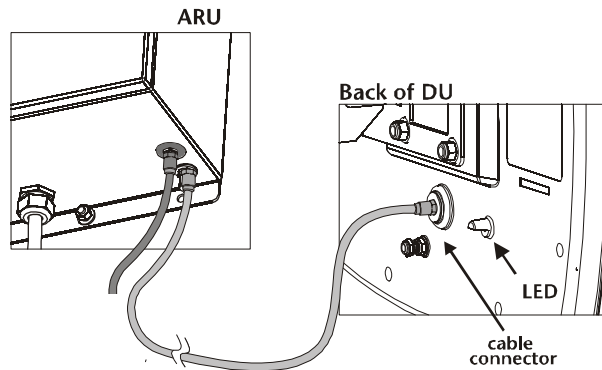

Figure 4.12 ARU to DU Cable (the long cable)
2. Connect the DU end of the coaxial cable to the DU as shown on the left in Figure 4.12. If the cable runs directly down the pole from the DU a drip loop is not required. Connect the ARU end of the ARU-DU cable to the remaining RF port on the ARU.